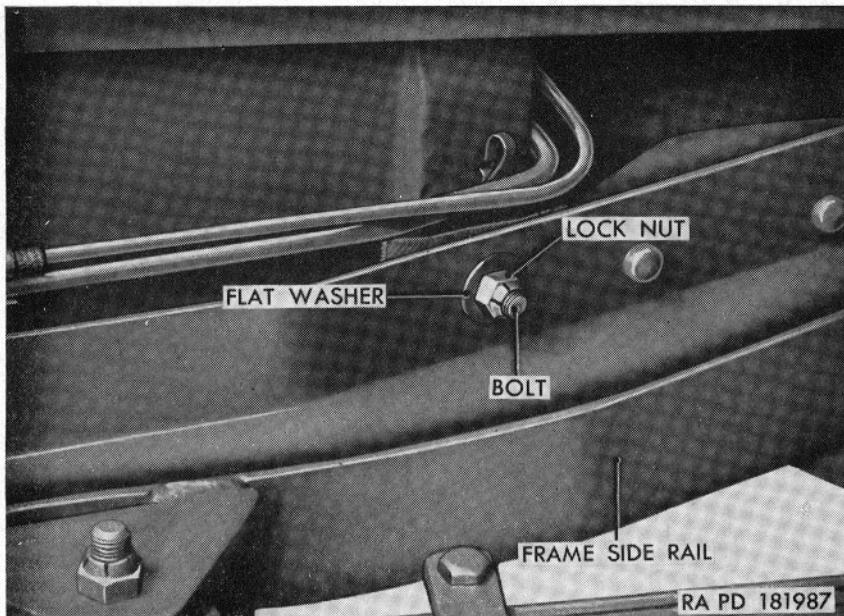

Figure 26.3. (Added) Body hold-down bolts M170—frame side rail.
(b) Remove three locknuts and flat washers from the bolts (fig. 26.3) securing the body to the frame side rail and remove the bolts with flat washers.
- (b) Remove four locknuts and flat washers (fig. 26.3) from the bolts securing the body to the frame side rail and remove the bolts with flat washers.